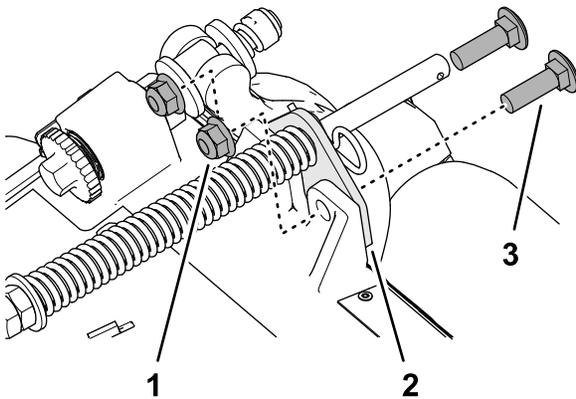

Figure 14
2. Remove the 2 flange locknuts (3/8 inch) and 2 carriage bolts (3/8 x 1-1/4 inches) that secure the turf-compensator bracket to the cutting-unit frame (Figure 14).